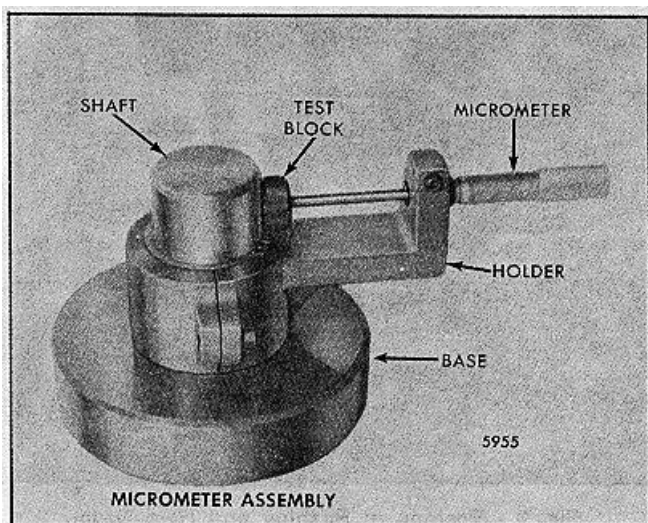

FIG. 5 Test Fixture and Micrometer
7. Zero the micrometer with the test block supplied (Fig. 5).